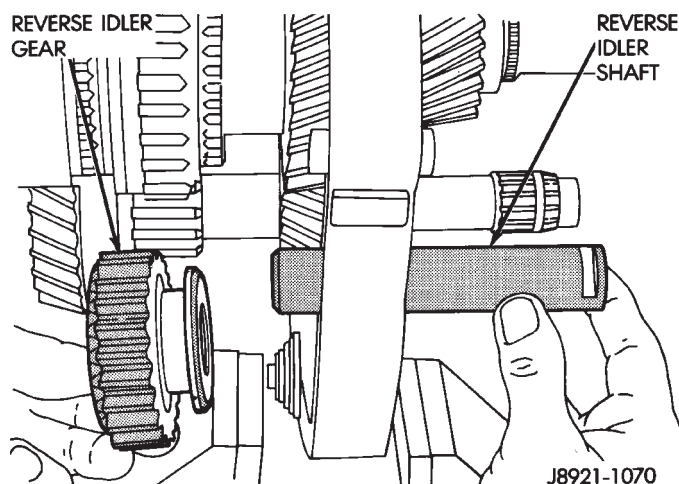

Fig. 40 Removing Reverse Idler Gear And Shaft
(21) Remove reverse gear and shaft (Fig. 40).